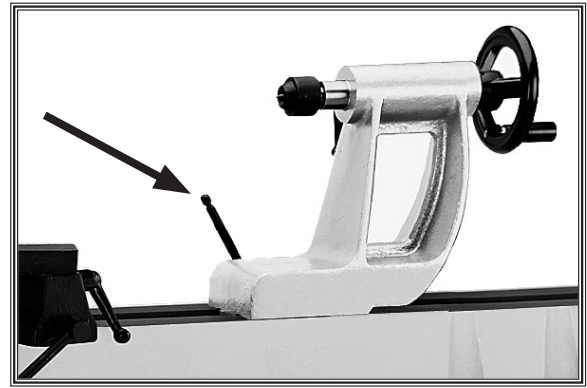

Figure 15. Tailstock locking lever.
1. Loosen the tailstock locking lever (see **Figure 15**), and move the tailstock in position.